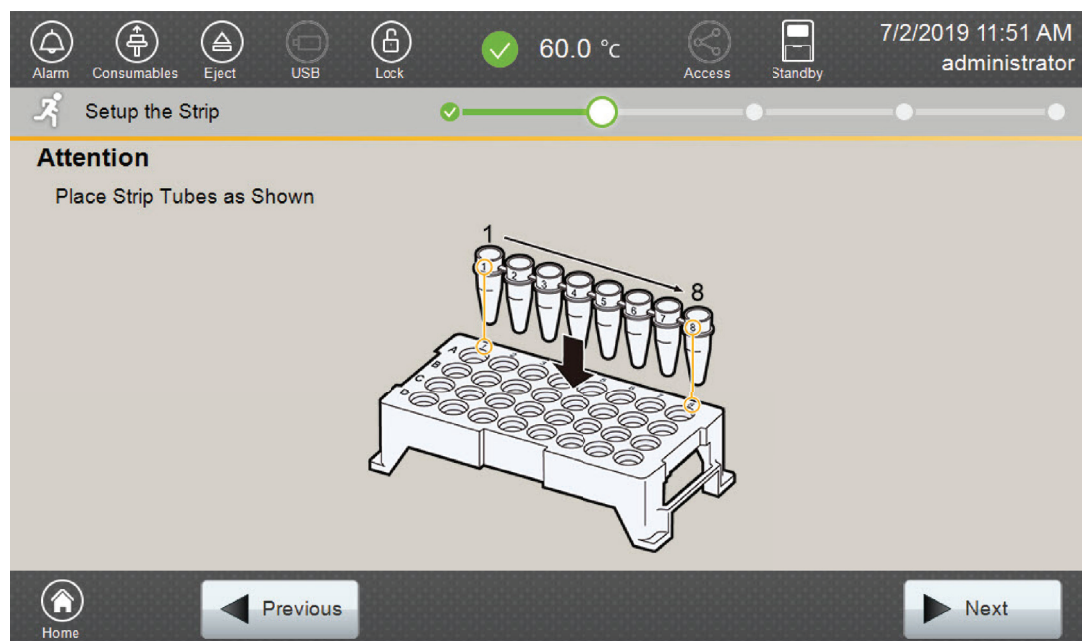
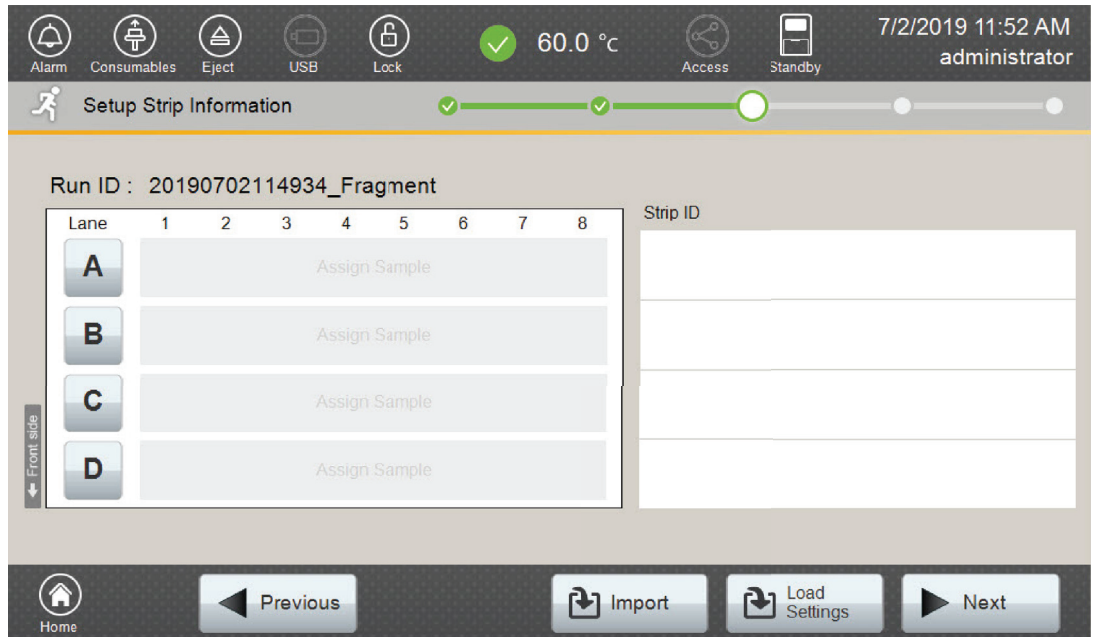

Figure 8. 'Setup the Strip' screen.
Figure 9. 'Setup Strip Information' screen.
- Follow the message screen for placement of strips into the sample cartridge (Figure 8).
1. Select **Next** on the 'Setup the Strip' screen shown in Figure 8. This will take you to the 'Setup Strip Information' screen shown in Figure 9.